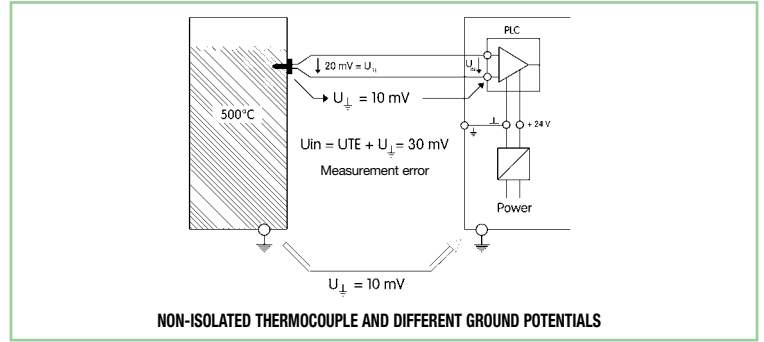

fig. 3
- isolates and electrically separates the sensor circuit from the control circuit and from the power supply circuit; each circuit therefore operates in relation to its own zero potential which, being isolated from other circuits, cannot be altered by ever-present potential differences between different ground references (fig.3)